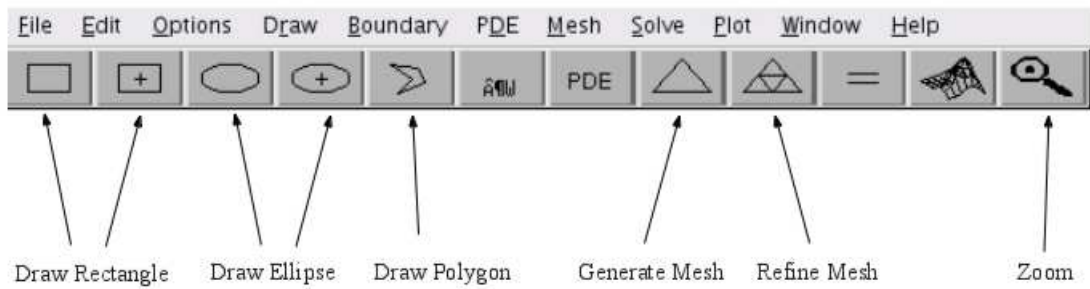

Figure 3: Basic tools for drawing in PDEtool.
A step by step tutorial of how to use some of the basic features of PDEtool are provided here. Before starting to draw it is often convenient to activate grid and change the axis scales. This is done using <Options> menu. To build our geometry simple geometries are added one by one. The basic shapes used in PDEtool are rectangles, ellipses and polygons. Basic drawing tools can be found on the toolbar (see figure 3, note polygons are not necessary to create the geometry for the lab).
**Draw a rectangle:** Create a rectangle by using the rectangle tool (see figure 3) and simply hold left mouse button and move the mouse cursor to obtain the desired size. To adjust the size and position double click on the rectangle and a dialog will appear where coordinates and dimensions can be provided, see figure 4.
**Draw an ellipse:** Create a ellipse by using the draw ellipse tool (see figure 3) and simply hold left mouse button and move the mouse cursor to obtain the desired size. Double click to adjust
To generate a mesh simply press mesh tool when the geometry seen in boundary mode is satisfactory (see figure 3). To refine the mesh, i.e. create more elements, press refine mesh until enough elements are generated (remember that finer mesh means higher computational cost but better accuracy). Note that a high number of elements increases the computational time.